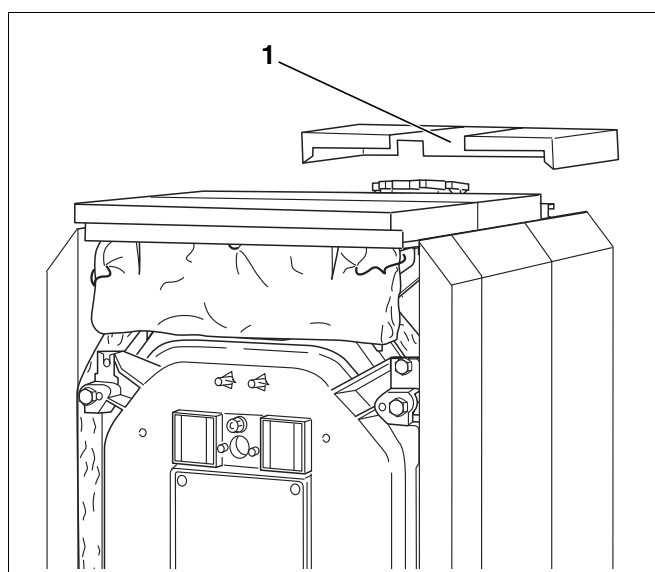

Fig. 54 Fitting the rear cover
- Fit the rear boiler cover on the side panels with the folded edges and cut-out for the heating circuit flow (Fig. 54, [1]) facing towards the front.